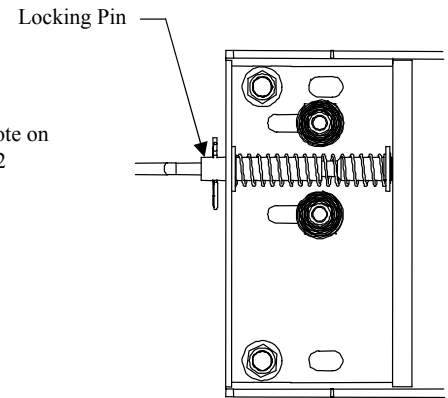

Figure 2
10. Install the U-Bolts from the inside of the bed (see figure 2).